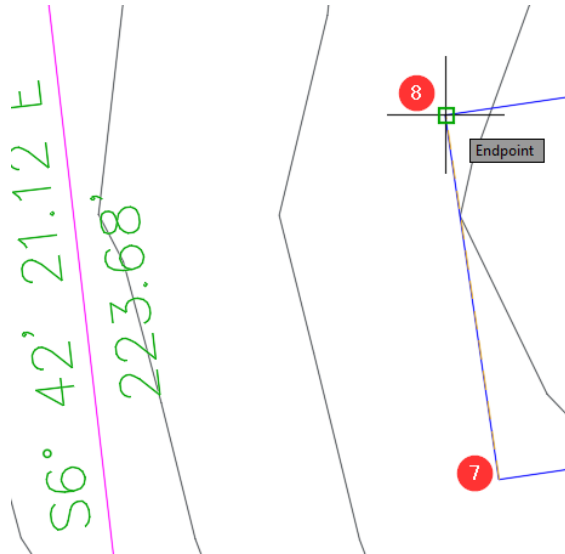

Figure 13.4 – Defining points to establish the +Y axis
8. When prompted at the command line to **Select a point on +Y axis ('quasi-north')**:, we'll snap to the upper-left corner of our building outline, as shown in *Figure 13.4*.